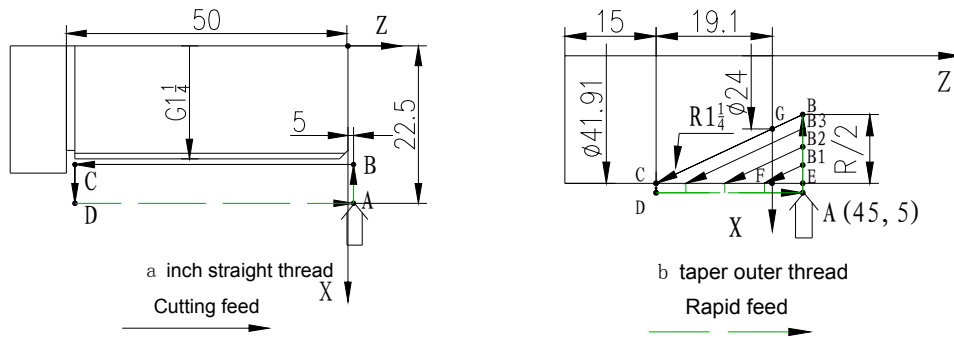

Fig. 4-26
5) Compound example: as Fig. 4-26
Example 1: Metric cylinder thread as Fig. 4-26 a. (G1 $\frac{1}{4}$: teeth 11, d=41.910, d2=40.431, d1=38.952)
Example 2: Taper Outer thread as Fig. 4-26 b ($R1\frac{1}{4}$: $d=41.910$, $d_2=40.431$, $d_1=38.952$, $P=2.309$, thread valid length is 19.1)